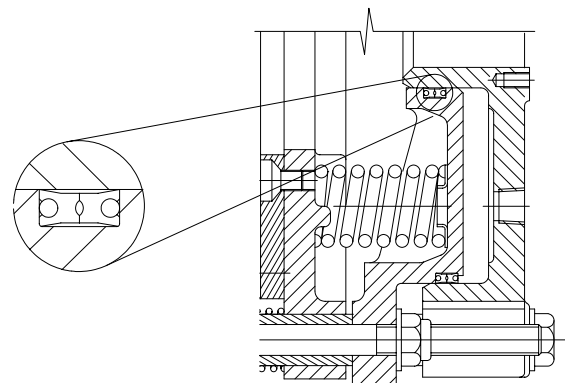

Fig. 7
4.4.4 Insert new seals into the grooves, noting the orientation of the seals per Figure 7.